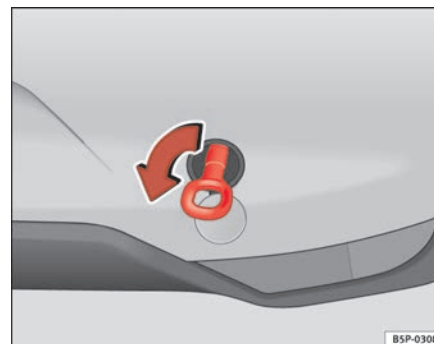

Fig. 208 Fitting the towing eye to the rear of the vehicle
- Screw the eye to its limit to the *left*, in the direction of the arrow ⇒ fig. 208.